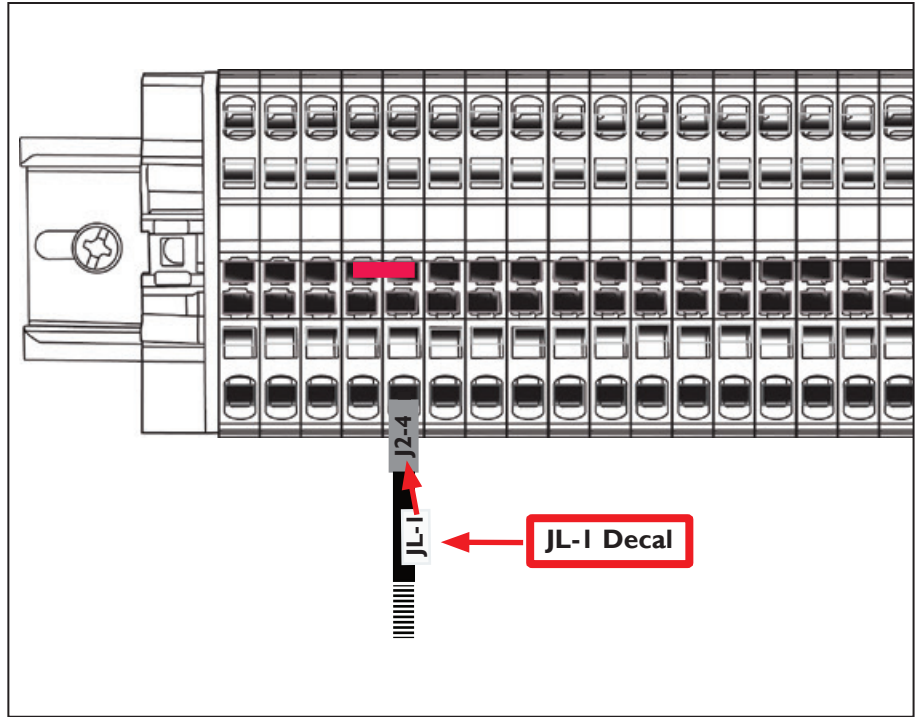

Figure 5
16. In slot 5, on wire **J2-4**, put the provided **JL-1** decal (see **Figure 5**).